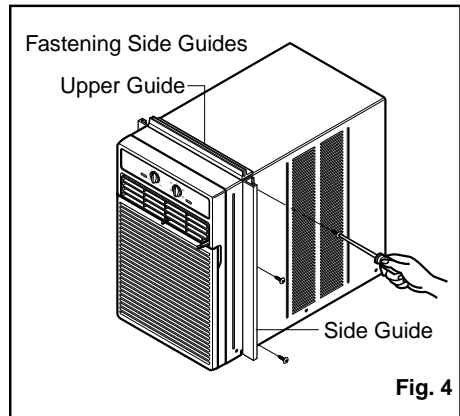

Fig. 4
5. Fasten Side Guides to the sides of the Air Conditioner using 3 Type A screws per Guide. Start with first screw at middle of Guide. (Fig. 4)
6. Fasten Upper Guide on the top of the Air Conditioner using 3 Type A screws. (Fig. 4)